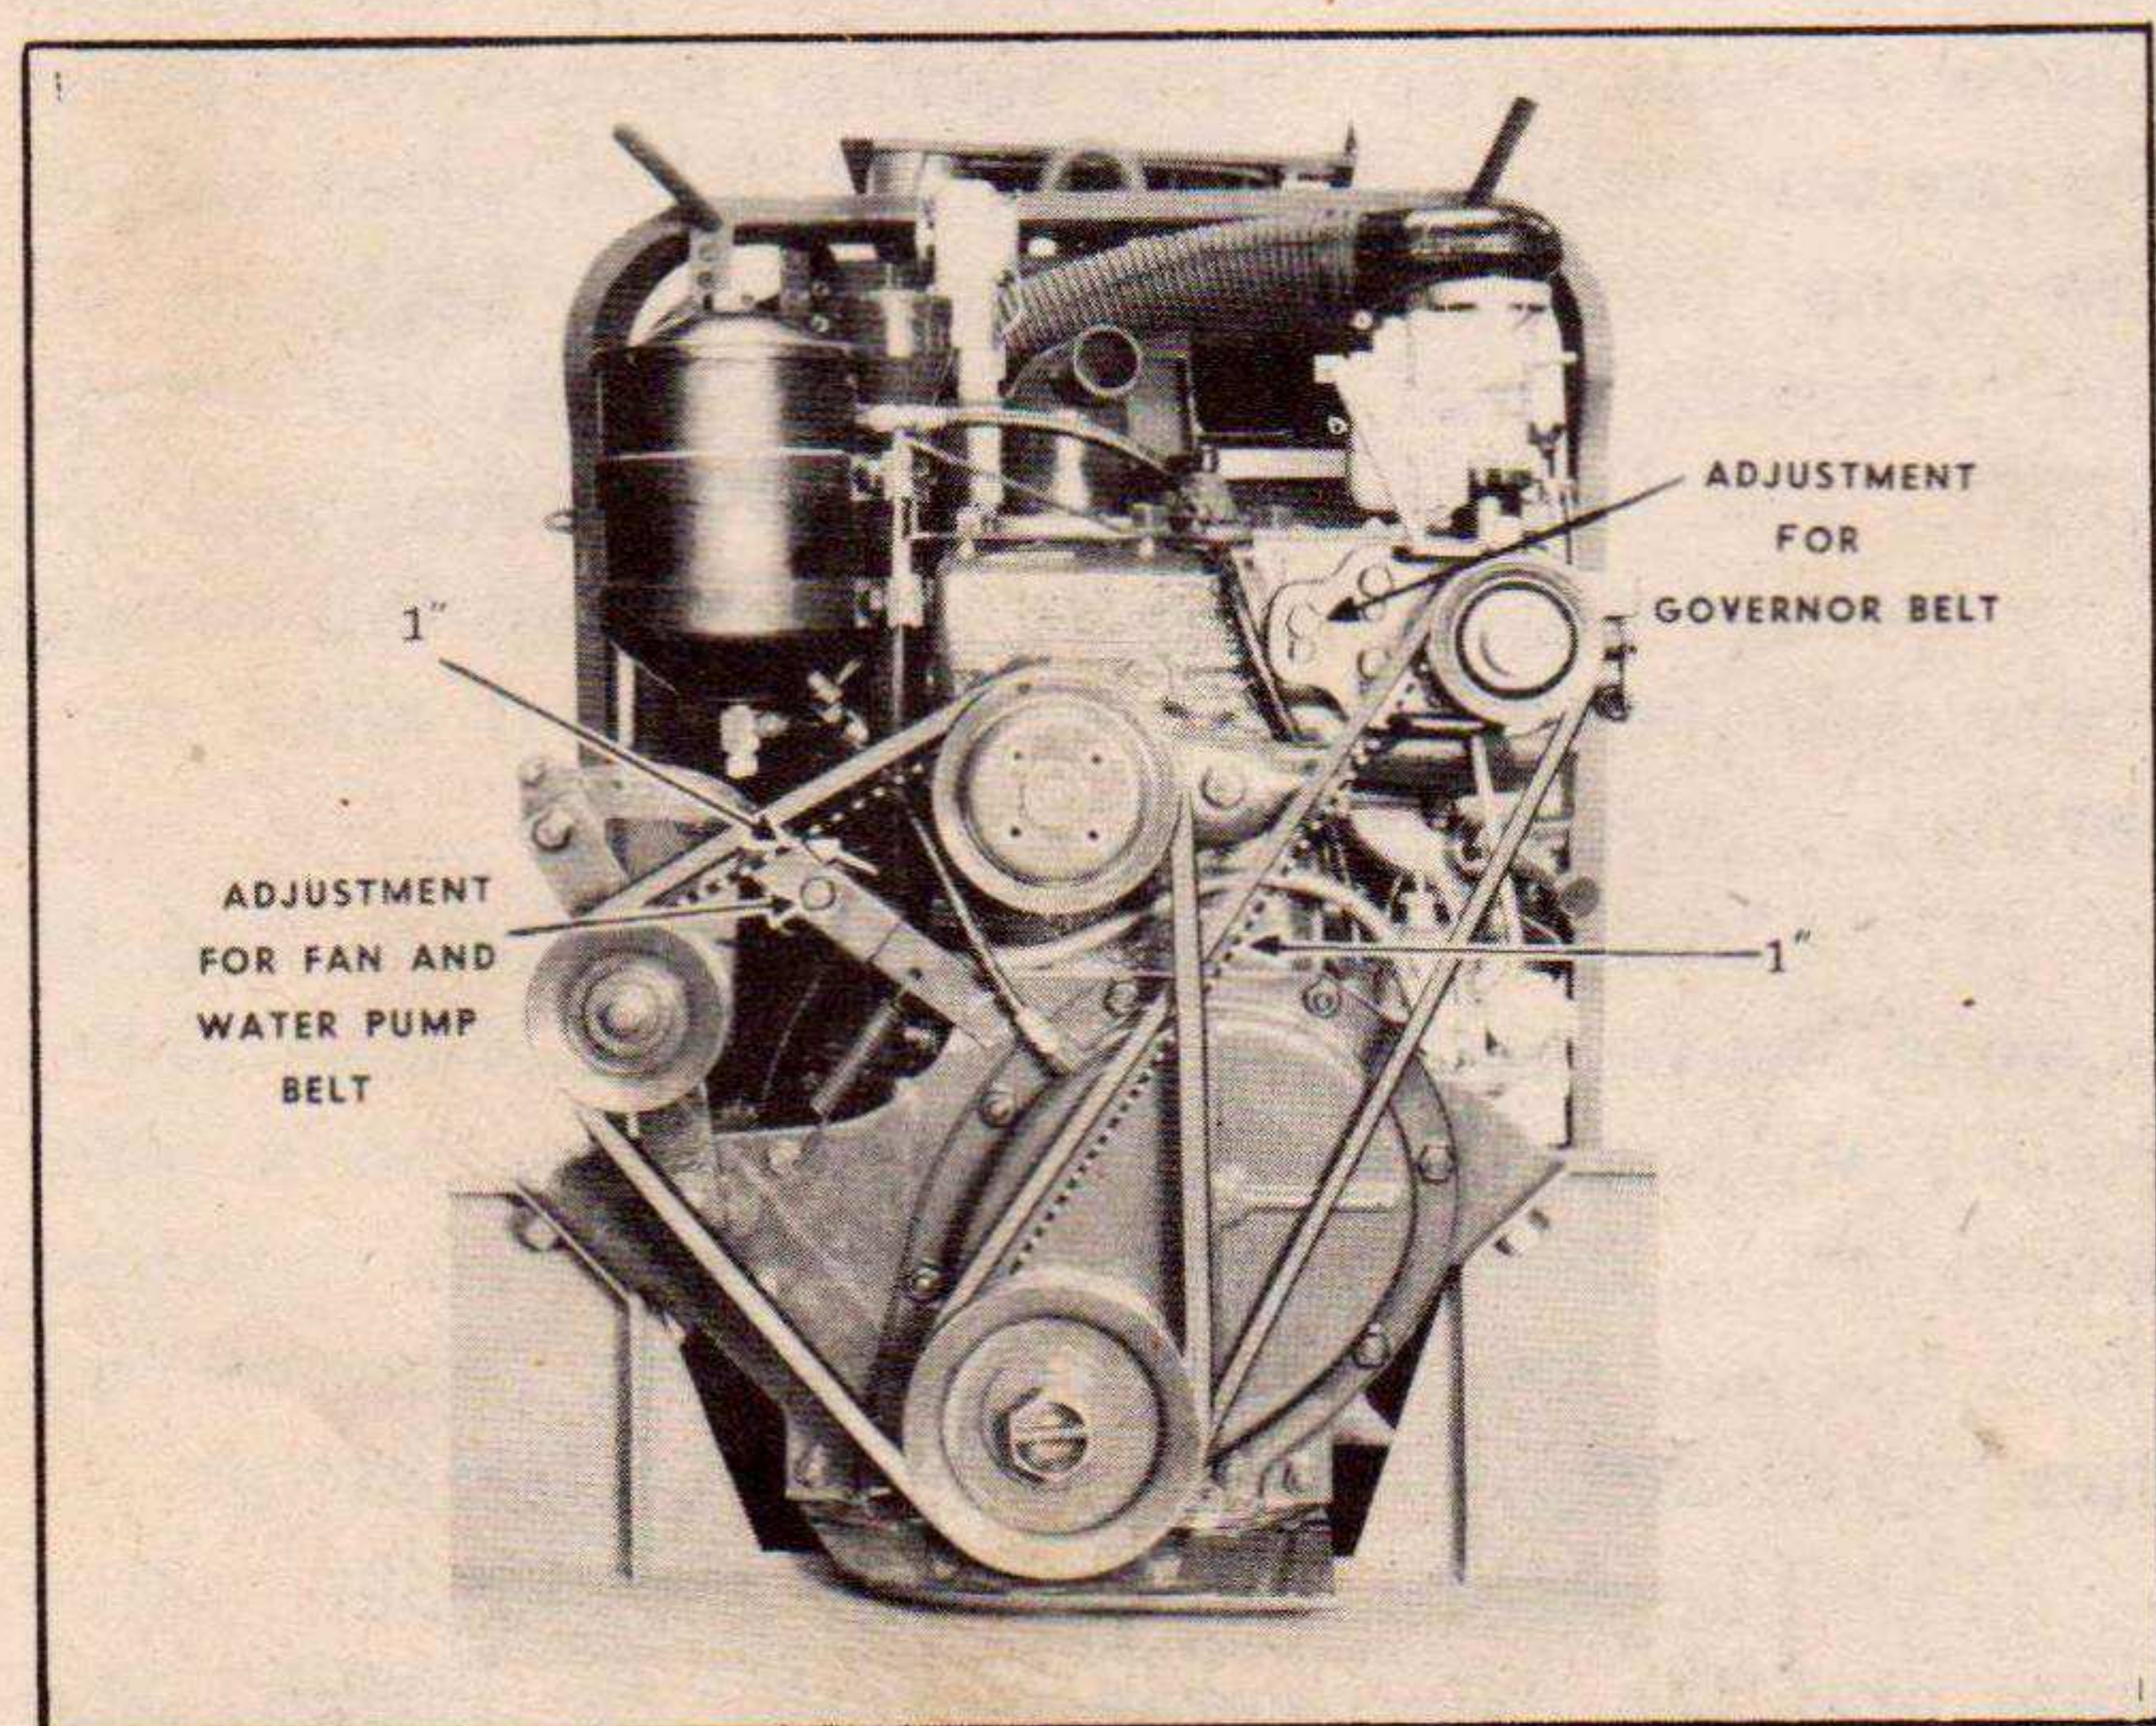

FIG. 18 FAN AND GOVERNOR BELT ADJUSTMENTS
(8) *Fan and Governor Belts.*—Inspect the fan and governor belts. If not in good condition, replace with new ones. Adjust the belt tension so that the top side of the belt can be depressed about 1". The fan belt is adjusted by loosening the clamp bolt in the slotted bracket at the idle pulley, moving the idle pulley to obtain proper tension, then tightening the bolt. Slotted holes in the governor bracket permit adjusting the governor belt in a similar manner. See (Fig. 18).